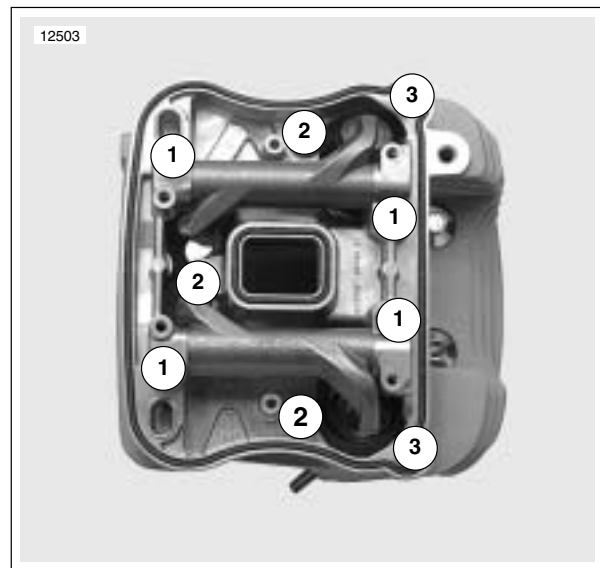

Figure 3-57. Lower Rocker Box Fasteners
6. See Figure 3-57. Remove hardware holding lower rocker cover to cylinder head in the following order:
- a. Remove two screws and washers (3).
- b. Remove three bolts and washers (2).
- c. Loosen the four rocker arm fasteners (1) in 1/4-1/2 turn increments using a cross pattern in order to relieve valve spring pressure on the lower rocker box.